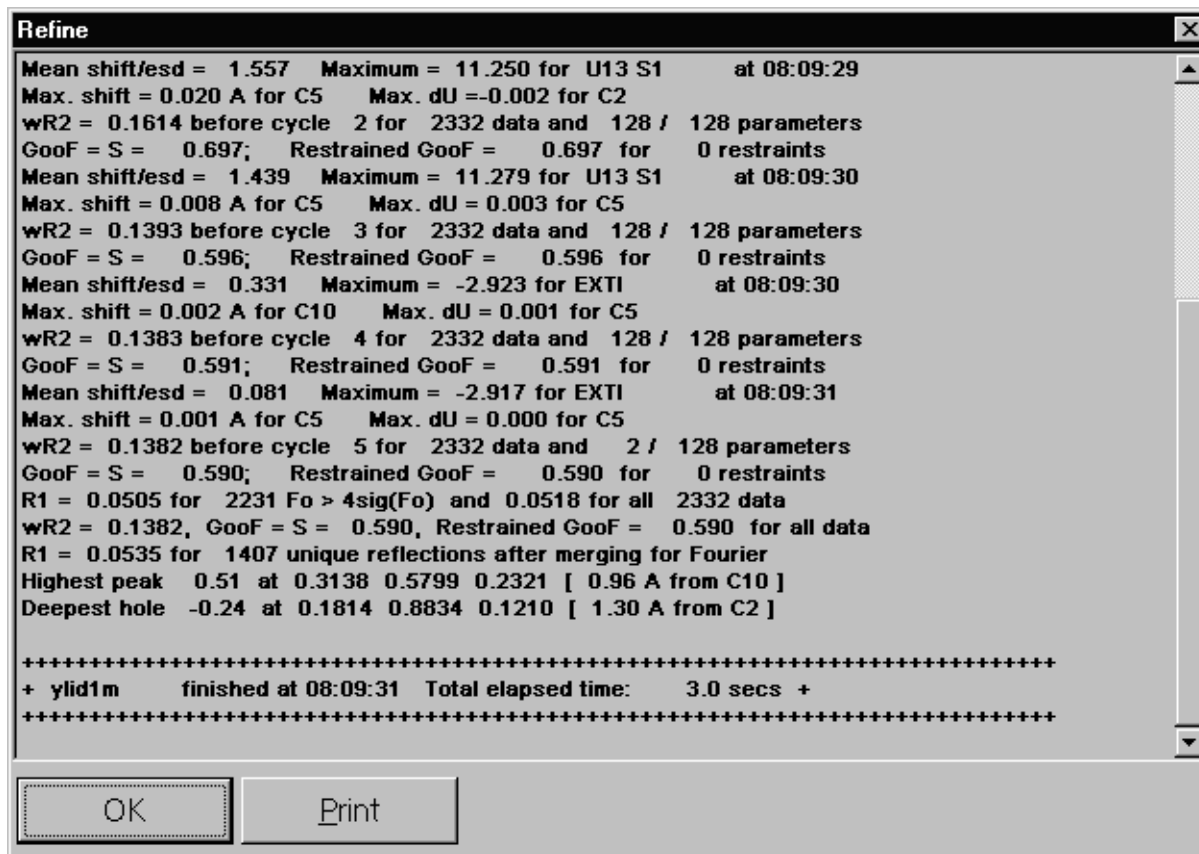

Figure 6-31. Least-squares refinement
36. Click OK to launch the XL (least-squares refinement) program (Figure 6-31).